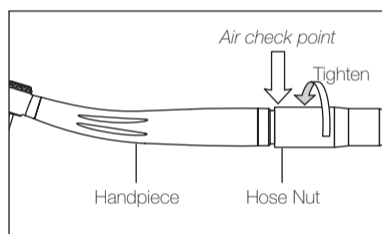

Fig. 1
- 2) Tighten the Hose Nut. (Fig.1)
Set the Air pressure at the location indicated in Fig. 1. The setting values are on the specification table. Do not exceed the recommended air pressure.